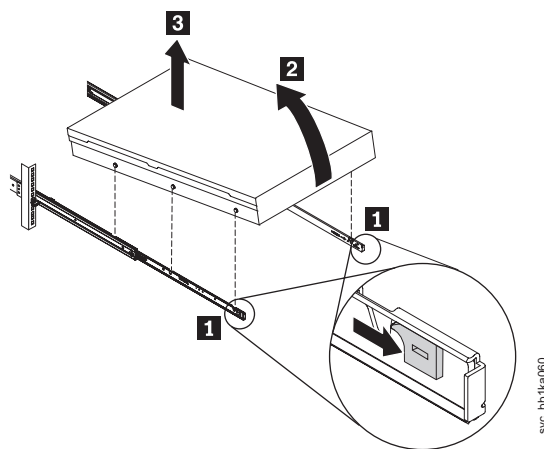

Figure 32. Removing the 2145-CG8 or 2145-CF8 from the rack
4. Pull forward the two white catches (**1** in Figure 32) on the side of the rails, and lift up the front of the node very slightly.